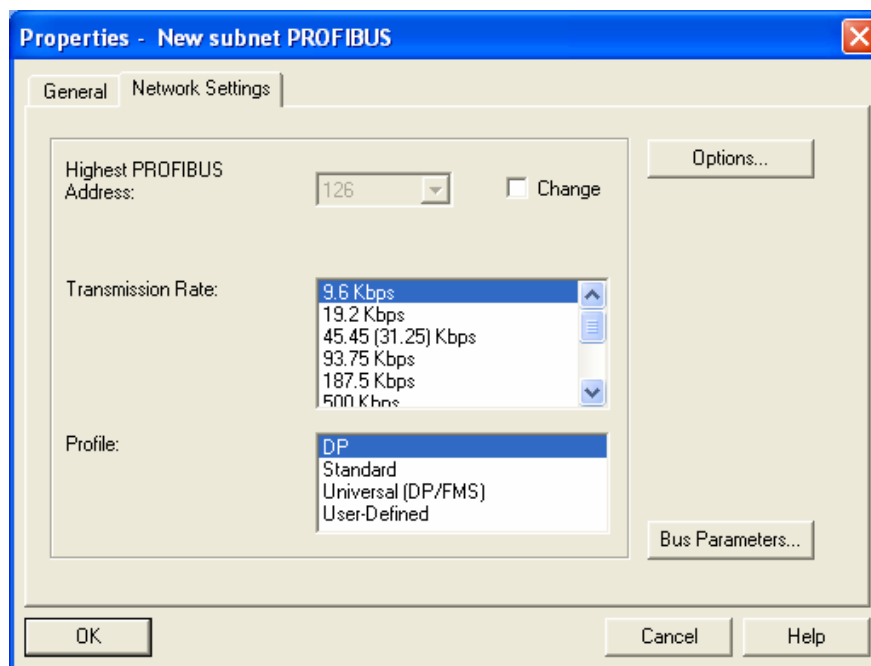

Figure 10-13
5. In this dialog box, select transmission rate and profile for the bus and click “OK”, as Figure 10-13.